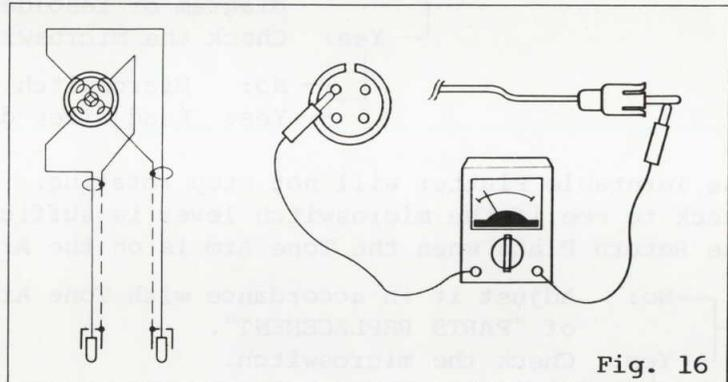

Fig. 16
- No: Perform continuity test between the cartridge pin and end of output cable (pin plugs). (Figure 16)